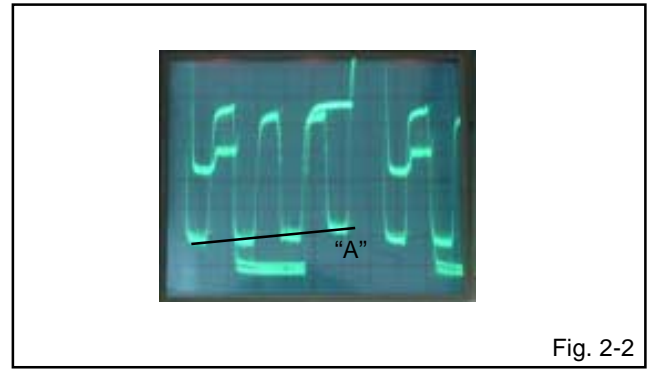

Fig. 2-2
5. Press the VOL. UP/DOWN button on the remote control until the section "A" becomes as straight line. (**Refer to Fig. 2-2**)